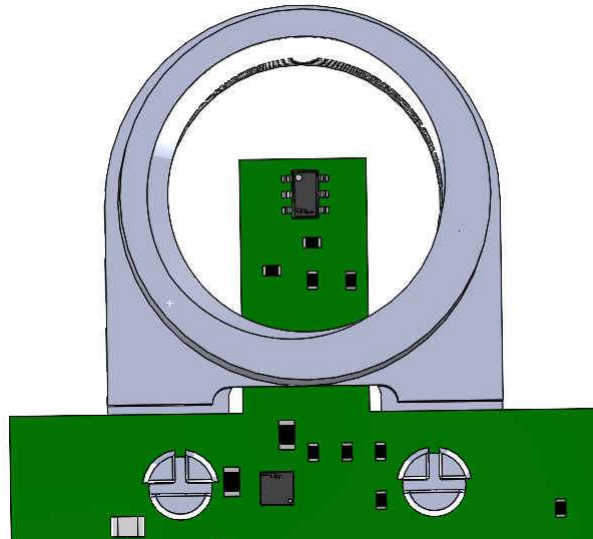

Figure 5-23. Base Connected to TMAG5328EVM
1. Connect the base of the module to the TMAG5328EVM (see Figure 5-23).